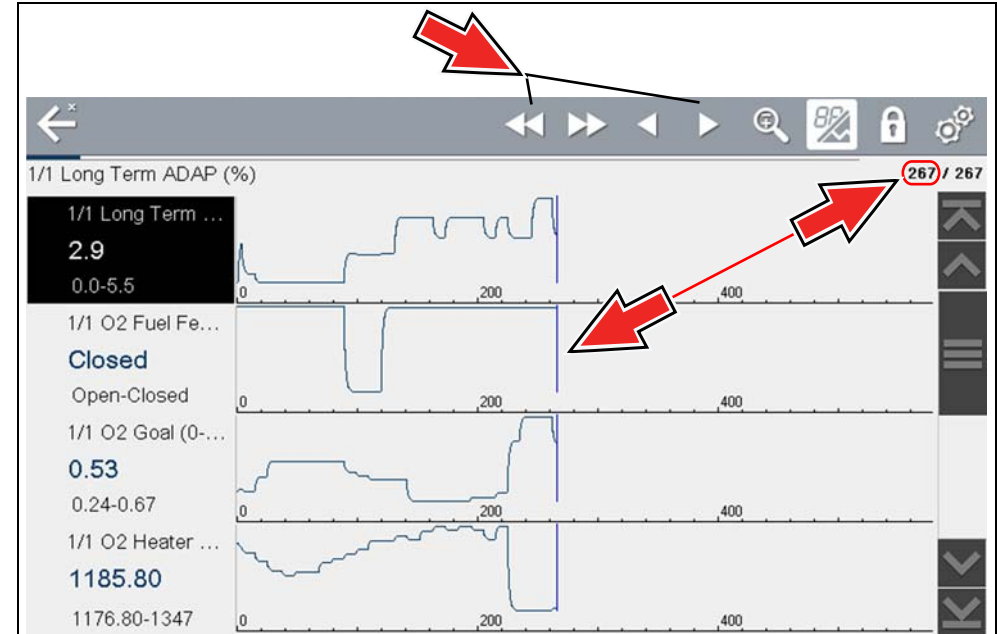

Figure 5-33
3. In graph view, use the control icons to move through the data (Figure 5-33).
The blue (vertical cursor) (Figure 5-33) indicates your position in the data and is denoted by the current position value (Figure 5-33) in the counter display. The cursor displays in all PIDs.
Pressing the Save icon more than once in the same data collection session will create multiple (.SCM) files. Each file will contain gray (vertical cursors) (Figure 5-33) indicating where the data was paused.